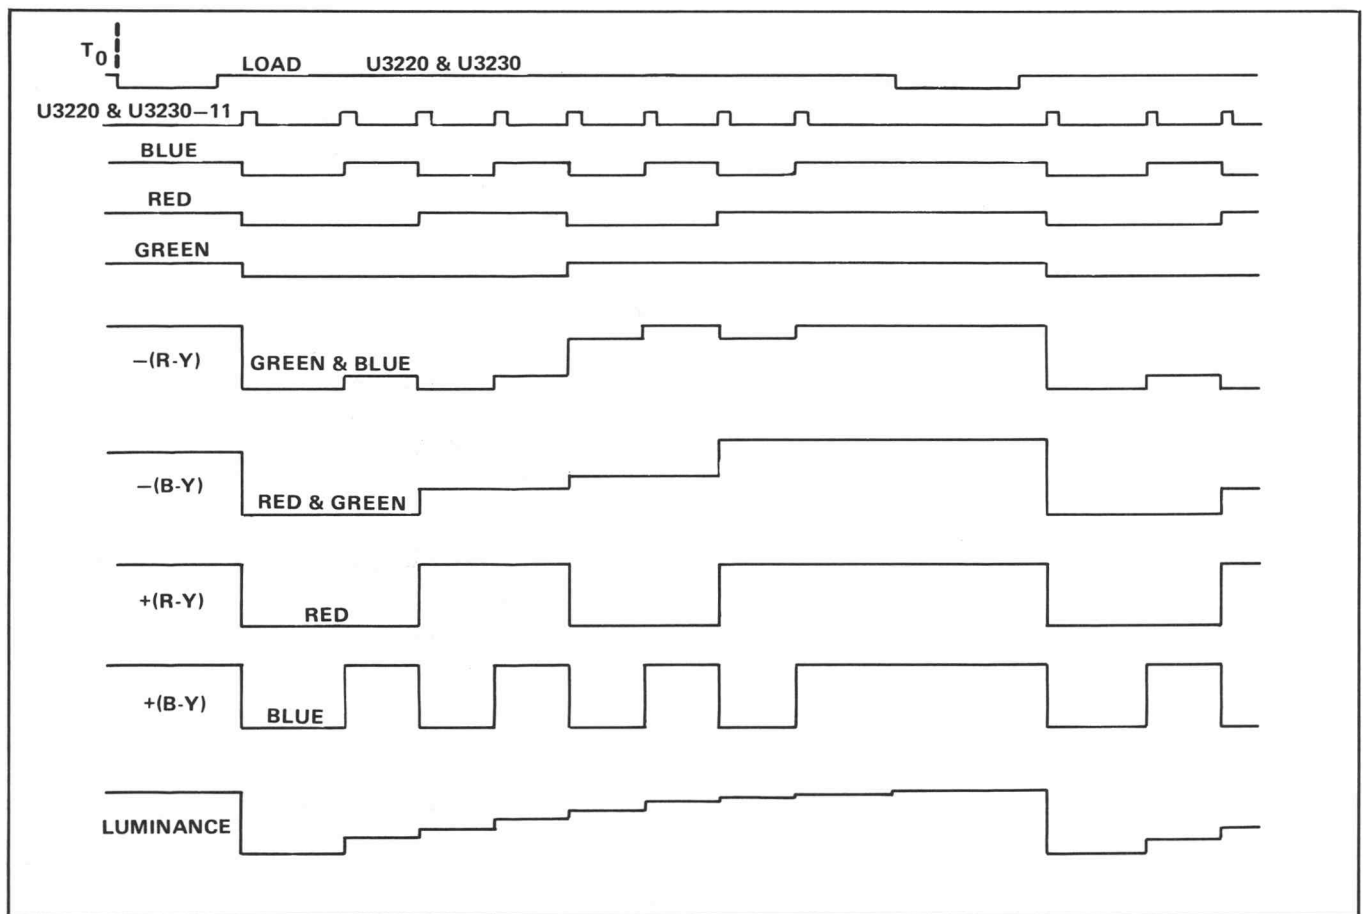

Fig. 3-3. Color Bar Drive timing waveforms.
The circuitry on diagram 3_a & b is used: (Color Bar Drive) to provide signal currents which correspond to the R-Y, B-Y, and luminance (Y) portions of the color test signal, and (Staircase & APL) to generate the LINEARITY and FLAT FIELD test signals. (See Fig. 3-3 for Color Bar Drive timing information.)